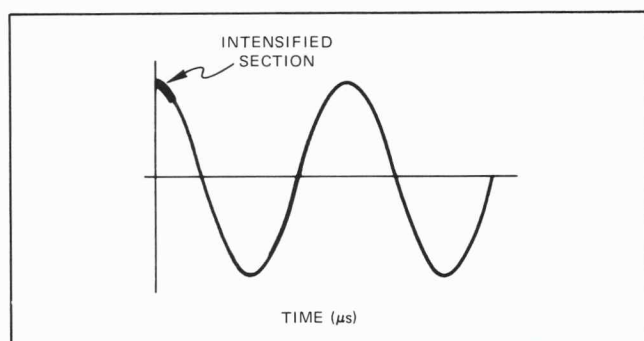

Figure 5-5. Reference Waveform.
f. Adjust the oscilloscope trigger level so that the oscilloscope is triggered when the input waveform is at its most positive value. Adjust the intensity level to obtain a display as illustrated in Figure 5-5.
d. Adjust the oscilloscope trigger level so that the oscilloscope is triggered when the input waveform is at its most positive value. Adjust the intensity level to obtain a display as illustrated in Figure 5-5.